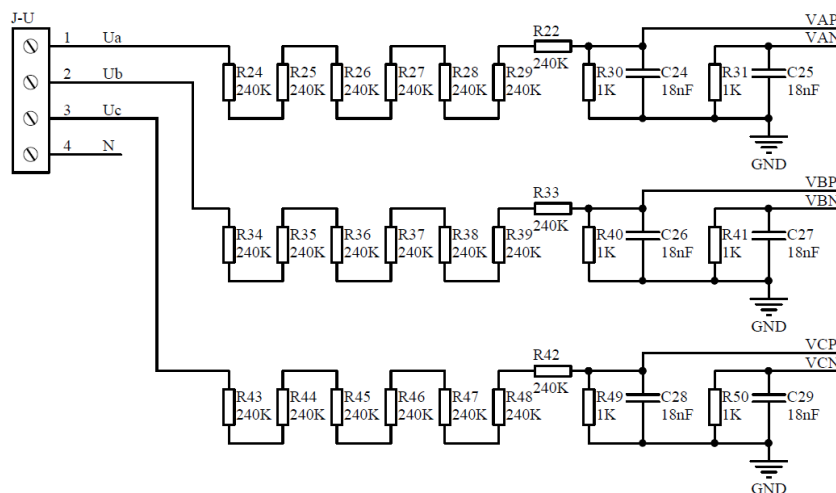

Figure 3-2 Voltage Sampling
There are three voltage channels on the ATM90E3x-DB. Line voltage (AC) is connected to the screw terminal (J-U) directly. Resistor divider network is used for voltage sampling. Please refer to Figure 3-2 for details.